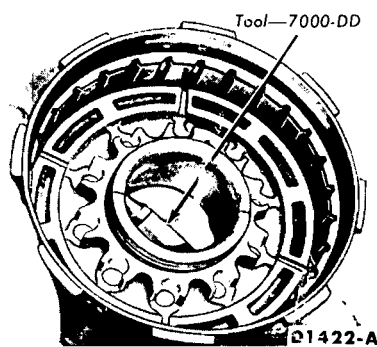

FIG. 83—Removing Reverse-High Clutch Piston
5. Remove the piston by inserting air pressure in the piston apply hole of the clutch hub (Fig. 83).